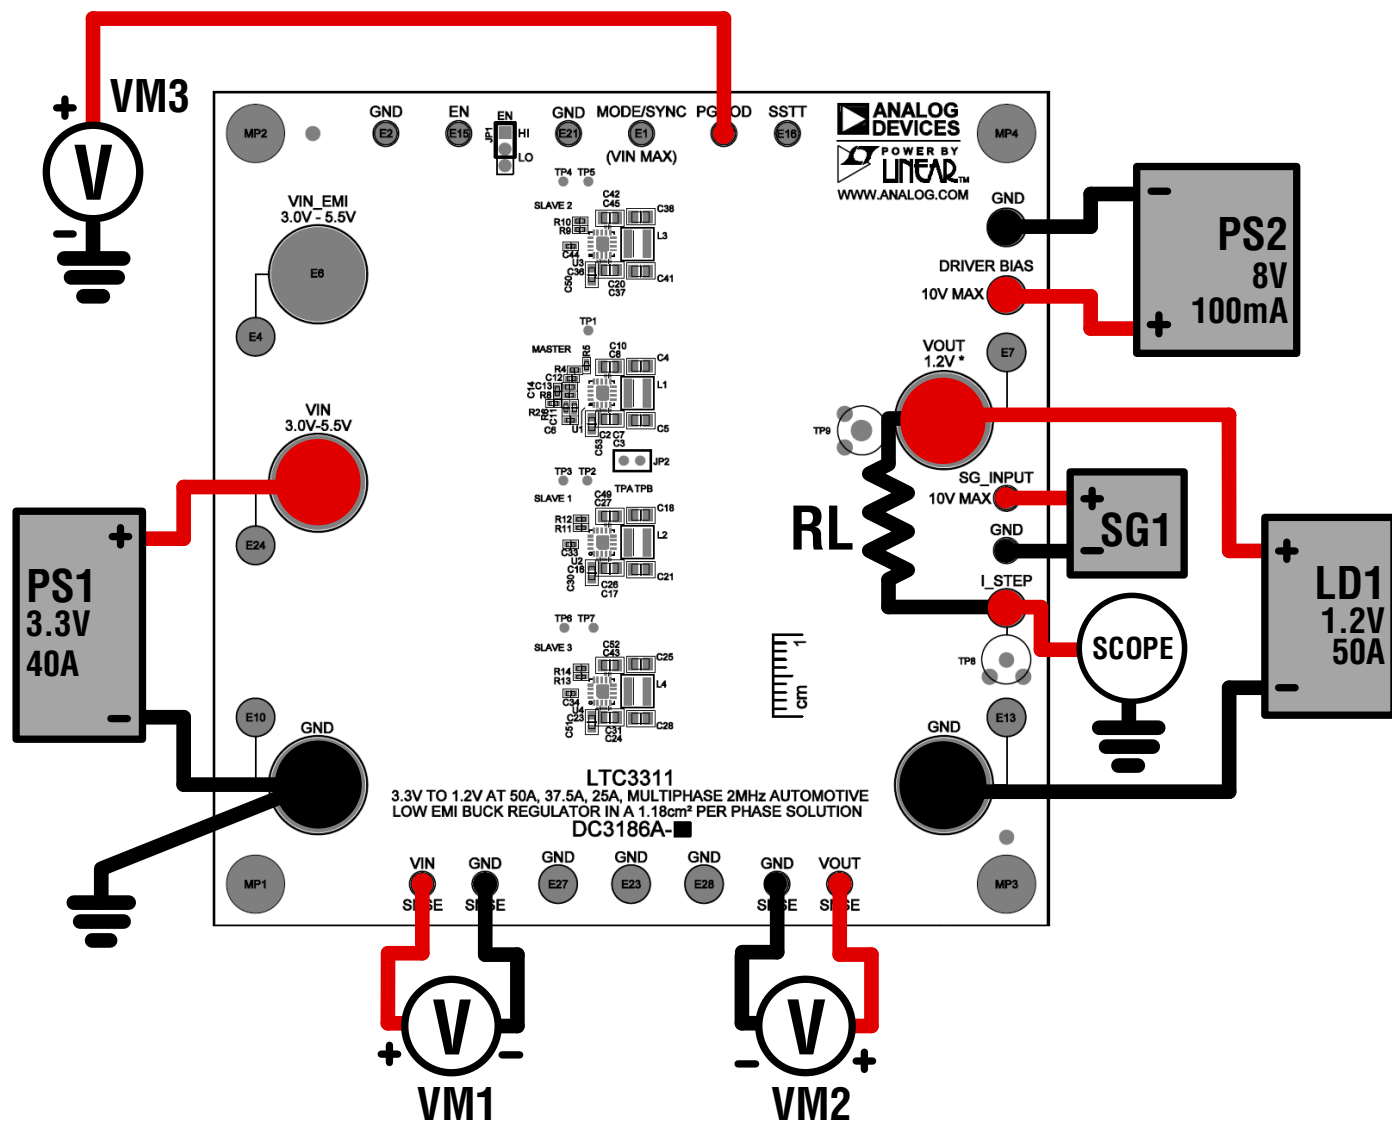
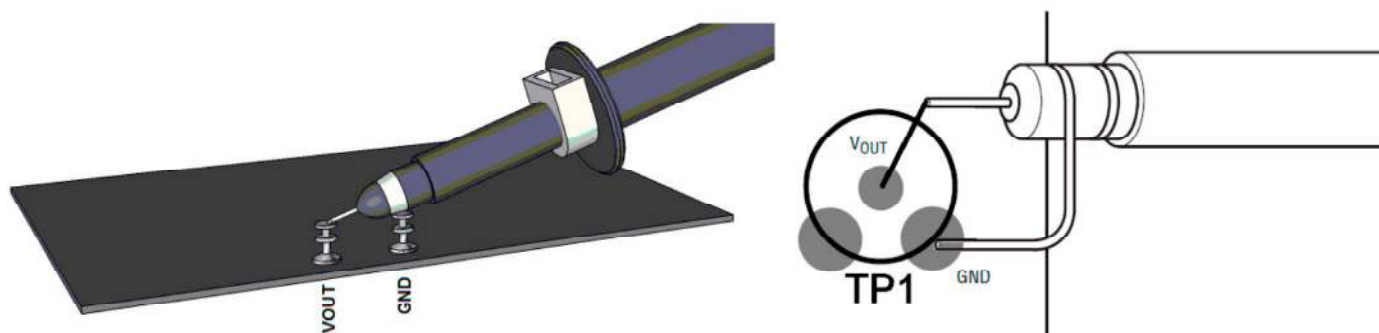

Figure 1. Test Setup for DC3186A Demo Board
Figure 2. Technique for Measuring Output Ripple and Step Response
Refer to Figure 1 for the proper measurement equipment setup and follow the procedure below:
NOTE: For accurate V_{IN} , V_{OUT} and efficiency measurements, measure V_{IN} at the VIN SNSE and GND SNSN turrets, and measure V_{OUT} at the VOUT SNSE and GND SNSE turrets, as illustrated as VM1 and VM2 in Figure 1. When measuring the input or output ripple, care must be taken to avoid a long ground lead on the oscilloscope probe. Measure the output voltage ripple by touching the probe tip directly across the output turrets or to TP1 as shown in Figure 2.
3. Set power supply PS1 current limit to 40A. Set the electronic load LD1 to CC mode and 0A current. Slowly increase PS1 to 1V. If PS1 output current reads less than 20mA, increase PS1 to 3.3V. Verify that VM1 reads 3.3V and VM2 reads 1.2V. Check VM1, VM2, VM3, PS1 output current, and LD1 input current. Connect an oscilloscope voltage probe as shown in Figure 2. Set Channel to AC-coupled, voltage scale to 20mV and time base to 10 μ s. Check VOUT ripple voltage. Verify that PGOOD voltage is above 3V.
5. To test the transient response with a base load, add the desired resistor to produce a minimum load between VOUT and I_STEP turrets (RL shown on Figure 1).